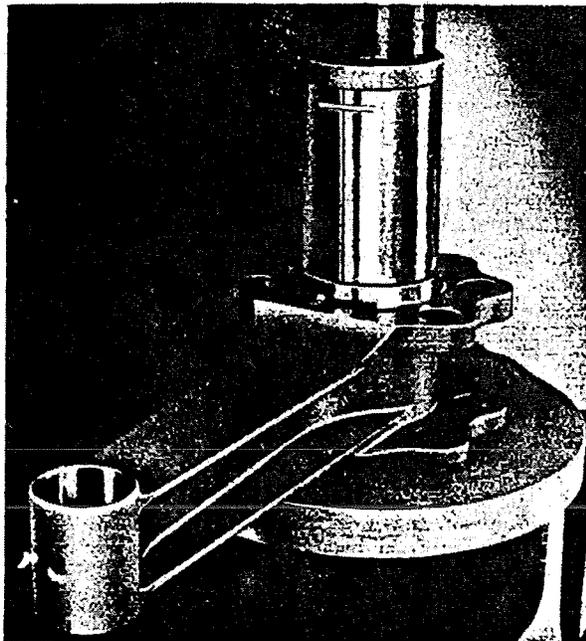

Figure 30 - Replacing Master Rod Bearing
(1) Before putting in the new master rod bearing remove any burrs or sharp edges in the bore of the master rod. Place a clean new master rod bearing in dry ice and let stand for one-half hour. Mark the center line of the master rod on the end of the rod hub.
(2) Place the master rod in Base (Tool No. T-367) for insertion of the bearing. The chamfer in the end of the bearing must face toward the lock plate end of the master rod. Use a flat disc pusher piloted in the bearing and press the bearing completely into master rod with an arbor press. While pressing make certain the scribed line along the outside diameter of the bearing coincides with the master rod center line marked on the rod hub. If lines do not coincide when pressing bearing in master rod the oil passages in the bearing will not match with the oil passages in the master rod. If it is noticed that the lines do not coincide, immediately remove master rod and bearing from arbor press and clamp bearing between two pushers vise and tap master rod gently until the lines do coincide. Refer to Figure 30.
(3) After master rod bearing is pressed in place the dowel pin hole should be drilled  $11/64$ " diameter and reamed to  $3/16$ " diameter,  $51/64$ " deep. Hole can be spotted from oil hole. The dowel should be a tap fit in the hole. After hole is drilled drive dowel pin in place. After pin is in place the inside diameter of the master rod bearing must be carefully bored to a smooth finish at the required diameter. The inside diameter of the bearing should be concentric with and parallel to the hub ends of the master rod. Check the master